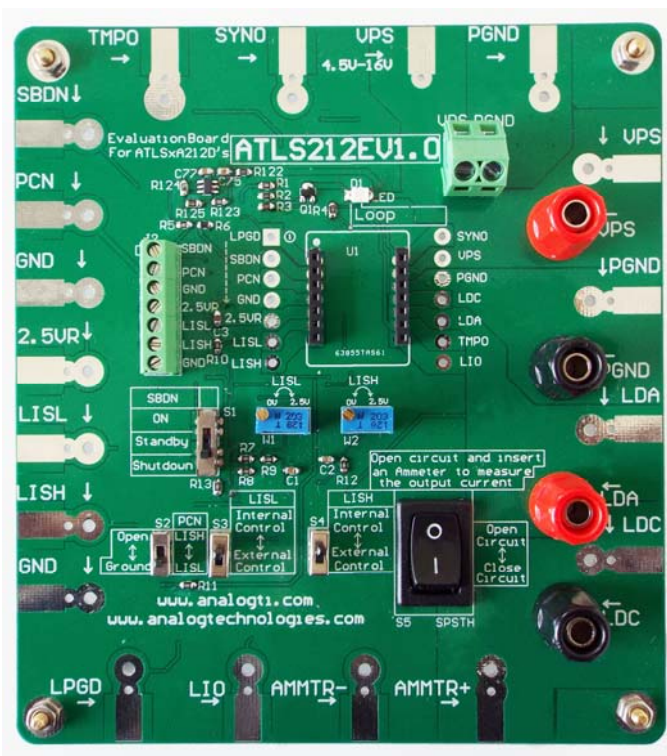
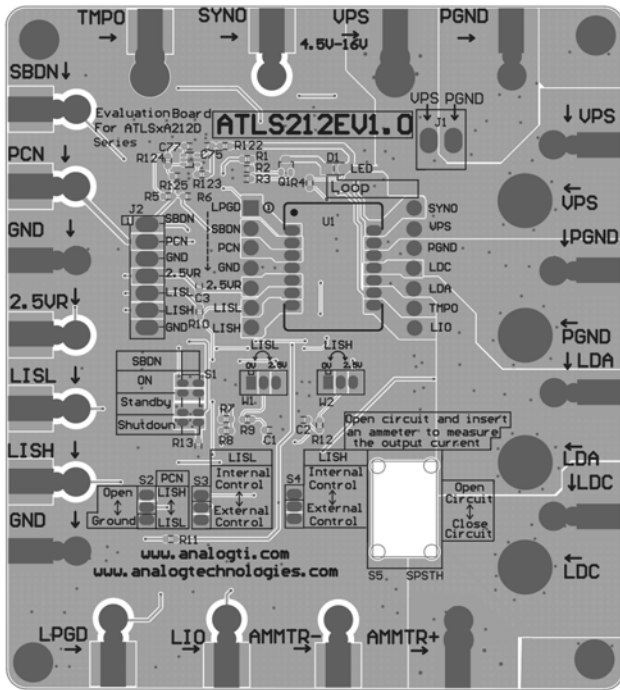
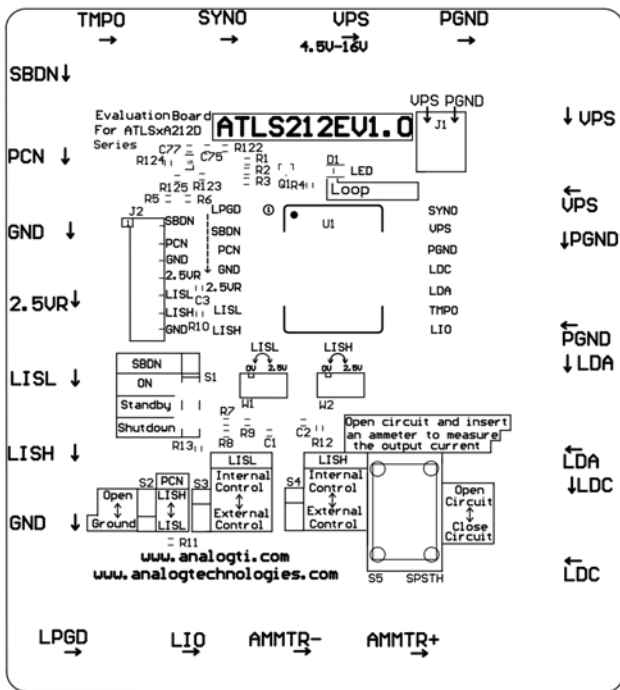

Figure 1. Physical Photo of ATLS212EV1.0
Figure 2. Top Silkscreen Layer with Other Top Layers
Figure 3. Top Silkscreen
This evaluation board is shown in Figure 1. On the 4 edges of the board, it features solder pads for all the interface ports provided by the laser driver. The solder pads can be used by clips or soldered with wires for connecting to external circuits. The power supply input is connected on the upper edge of the board. The incoming wires can be soldered on the pads, or clipped by alligator clips, or use the terminal block and tight the wires by the screws. In the upper middle of the board, there is an LED. When the controller works properly, it will be lit up. On the left side of the controller, there is a terminal block. It can be used for connecting wires
going into the ports of the laser driver. On the lower side of the laser driver, there are 2 POTs (Potentiometers) for setting the lower and upper values of the set-point current. When the laser driver uses these POTs for setting the current values, push down the 2 switches below the POTs, see Figure 1 and Figure 2; when using external signals to modulate the laser driver output current, leave the 2 switch knobs onto the upper position, as marked on the board. The lower left corner switch is for selection which of the control ports is used for setting the laser driver current: LISL or LISH. The output current can be measured by a current meter, which can be inserted between the 2 multi-meter lead sockets: AMMTR+ and AMMTR-, which is located on the lower edge of the board. When an Ammeter is inserted into the circuit, turn switch S5 onto the upper position, the open circuit the meter leads, so that the current will go through the meter, thus the current will be measured. When the Ammeter is absent, turn the switch S5 down, to short circuit the current meter terminals so that the current will go through the switch to close the circuit.
The silkscreen layer of the evaluation board is shown in Figure 2 with other top layers, including top silkscreen, top copper, top solder mask, and multilayer (vias). Figure 3 shows the image of top silkscreen layer only.
1. Hook up the power supply. There are 2 solder pads in the upper right area on the edge for connecting the power supply. The connection can be done by clipping or soldering on the pads, or locking in 2 wires through the terminal block 2TB by tightening the 2 screws, see Figure 1. The power supply can set to between 4.5V and 15V. When using a lower voltage power supply, the power consumption of the driver will get smaller, thus, the driver will be working at higher efficiency. But the voltage has to be at least 1V higher than the laser diode forward voltage value, otherwise, the output current is out of control by the laser driver.